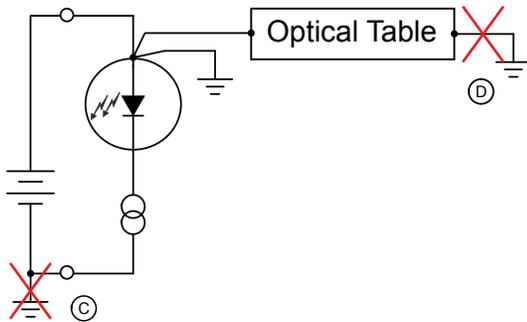

Figure 6. Solution: Break the Ground Short at One Point (C or D)
- There are two solutions, illustrated in **Figure 6**: